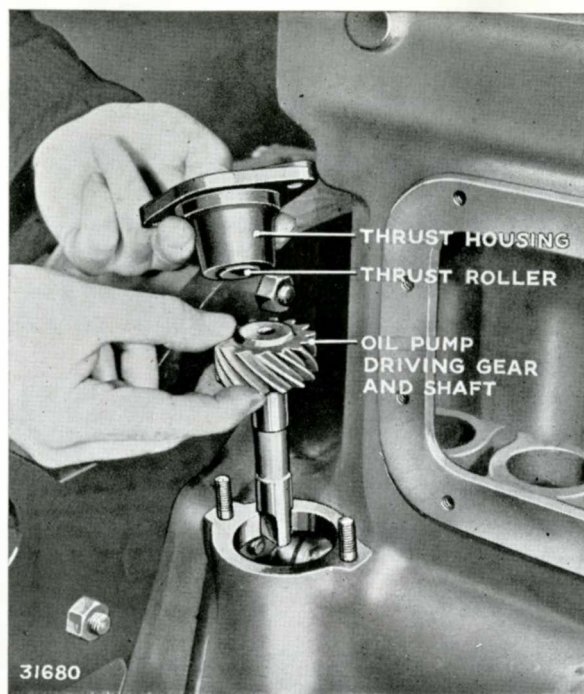

FIG. 9. FITTING OIL PUMP DRIVE GEAR AND THRUST HOUSING
3. To inspect the oil pump driving gear. Remove the thrust housing on the rear right-hand side of the engine block and withdraw the gear, Fig. 9. Backlash between the two gears should be .004 in. to .008 in. (.1016 mm. to .2032 mm.).